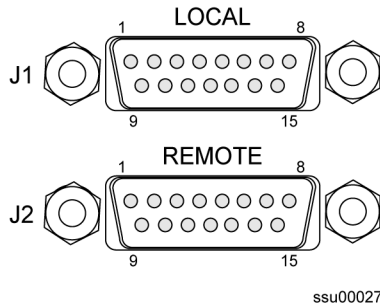

Figure 2-8. Alarm Contact Closures and Pin Assignments
The SSU-2000e Shelf has two filtered DA15P male connectors for local and remote alarm contact closure connections, as shown in Figure 2-8. The local connections are made on J1 and the remote connections are made on J2. The connectors are labeled ALARM CLOSURES, LOCAL (J1) and REMOTE (J2). They each have connections for normally open (NO), common or wiper (COM), and normally closed (NC) for each of these alarm categories: CRITICAL, MAJOR and MINOR.